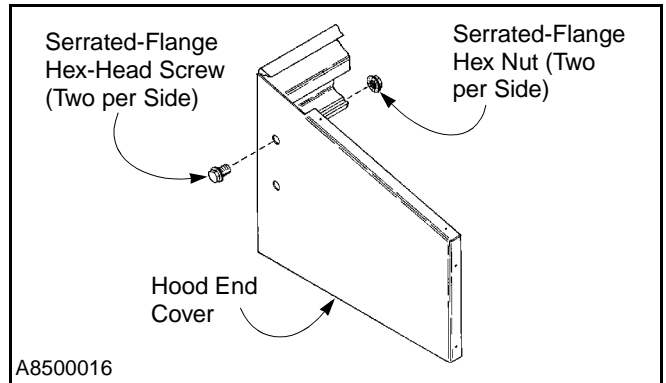

Figure 45
1. Attach the hood end covers to their respective U-bracket installed earlier on the side columns. Use two $\frac{3}{8}$ -16 x $1\frac{1}{4}$ -in. serrated-flange hex screws and nuts for each end cover. (See Figure 45.)